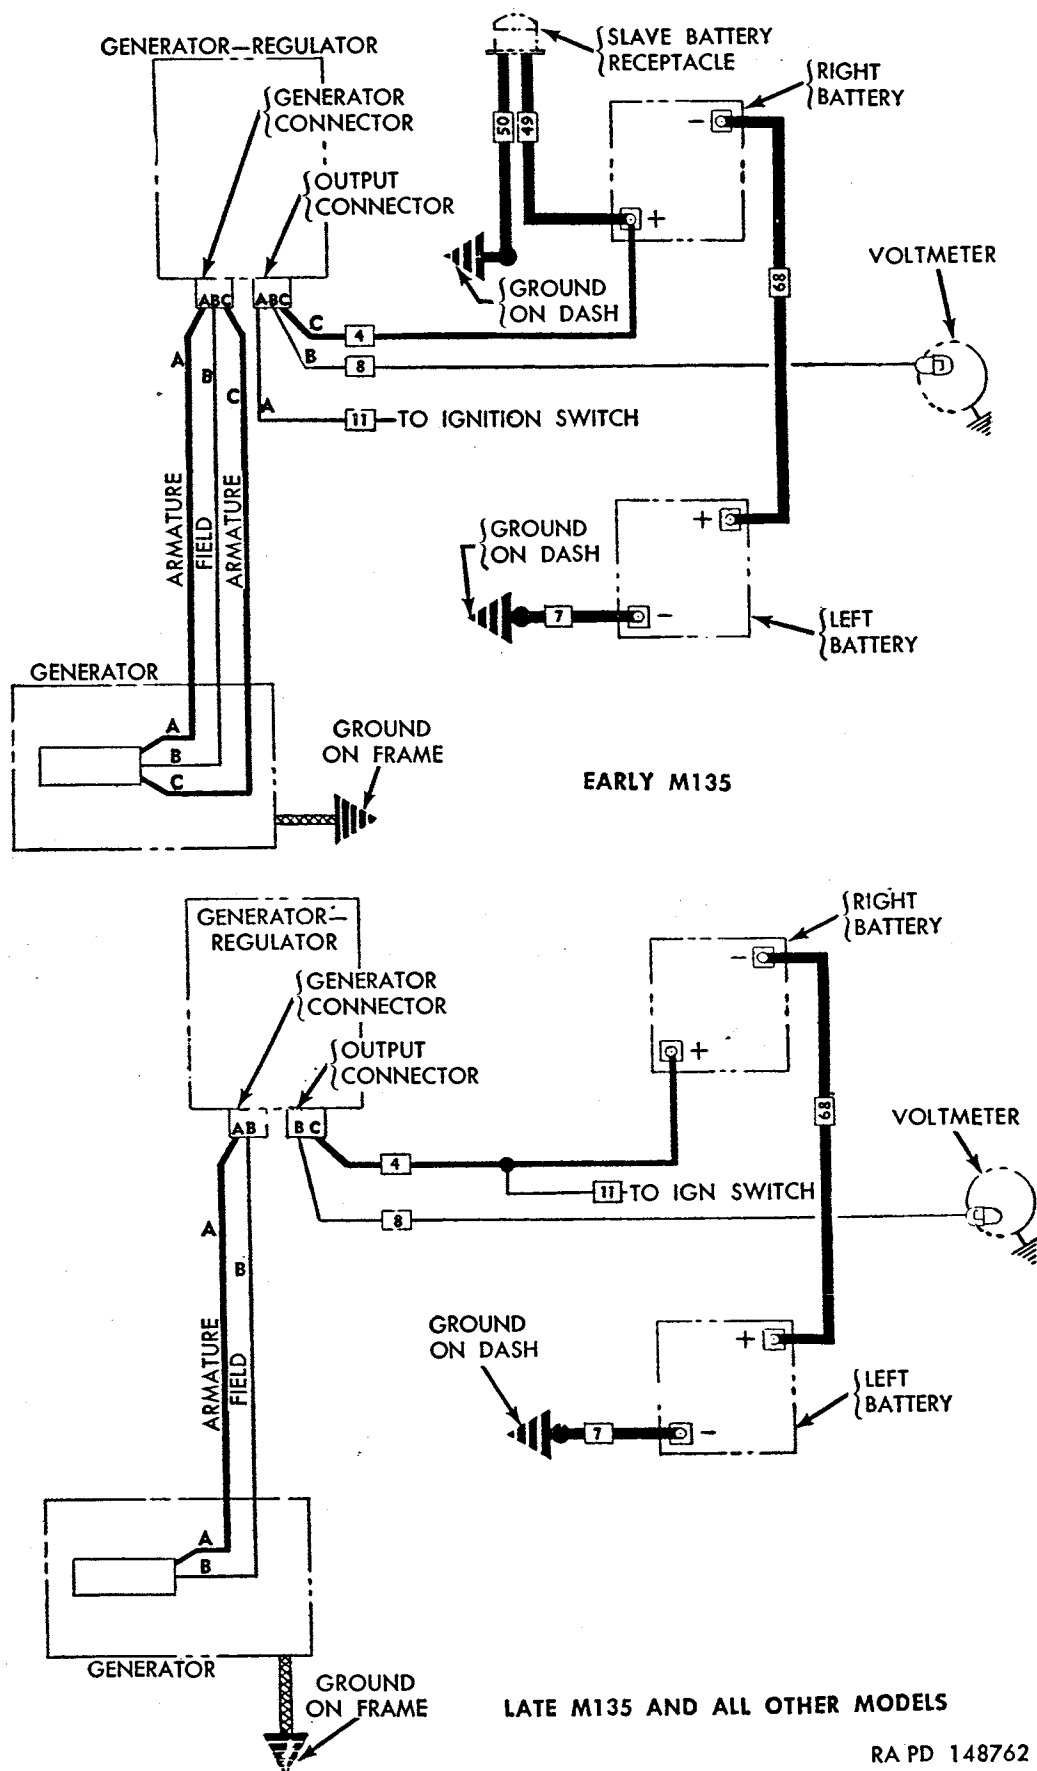

Figure 149. Generating system wiring circuits.
a. *General.* Generating system consists of the generator, generator-regulator, batteries, and interconnecting cables and wires. Generating system is completely sealed for submerged operation. One capacitor (condenser) is used in generator and two in generator-regulator for suppression of radio interference noise. Generating system wiring circuits are shown in figure 149.